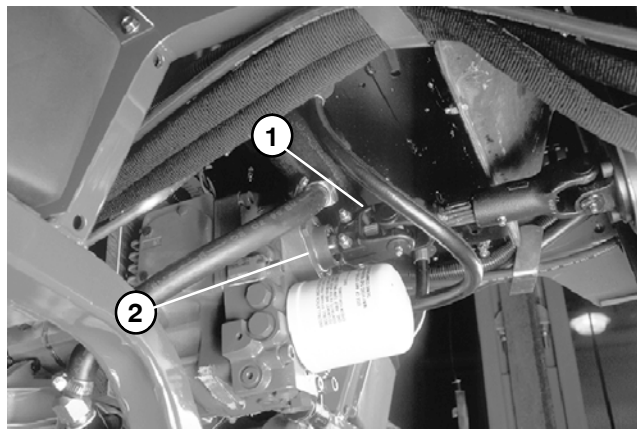

Figure 77
2. Disconnect drive shaft from the transmission (Fig 77).